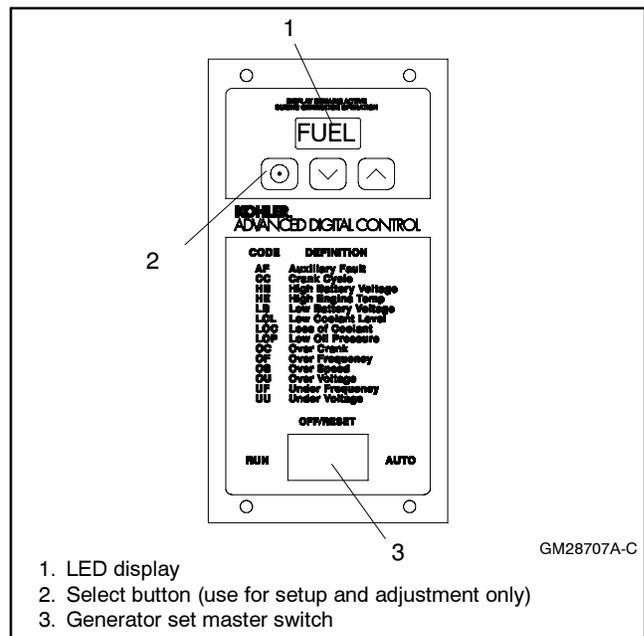

Figure 5-9 ADC 2100 Control
1. Press and hold the Select button on the ADC. See Figure 5-9.
2. While holding the Select button, move the generator set master switch into the RUN position. See Figure 5-9.
3. Keep holding the Select button until step 6. The ADC software version and then FUEL will appear on the ADC's LED display. See Figure 5-9.